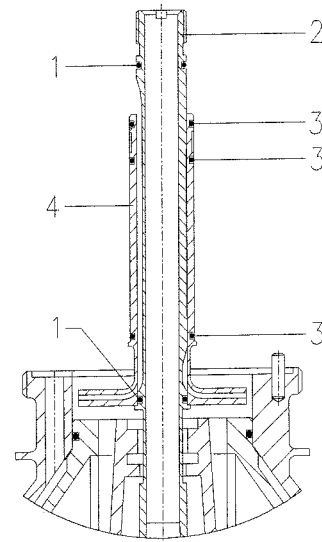

Figure 6.9
- 13) After carefully cleaning the groove, insert the **OR gaskets** (fig. 6.9 - part 1) on **feeding pipe** (2) and place it down.
- 14) Apply the three **OR gaskets** (3) in the **cream centripetal pump** (4), and insert it on feeding pipe.
- 7) Extract the **feeding pipe** and the **cream pump** (2 and 4 - fig. 6.9).